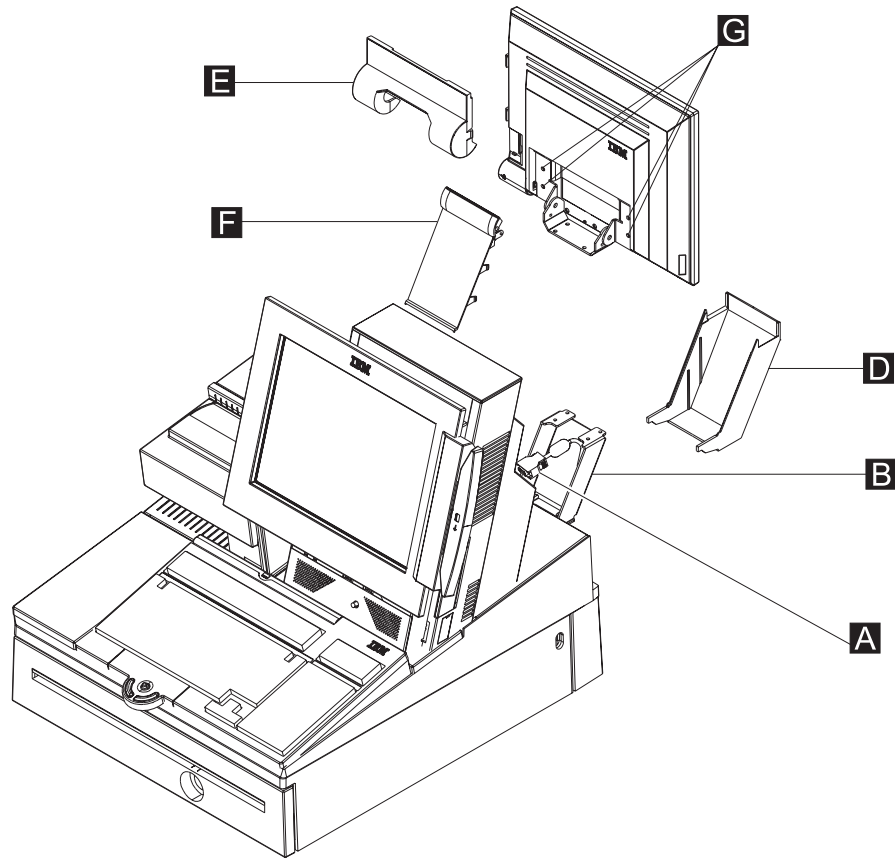
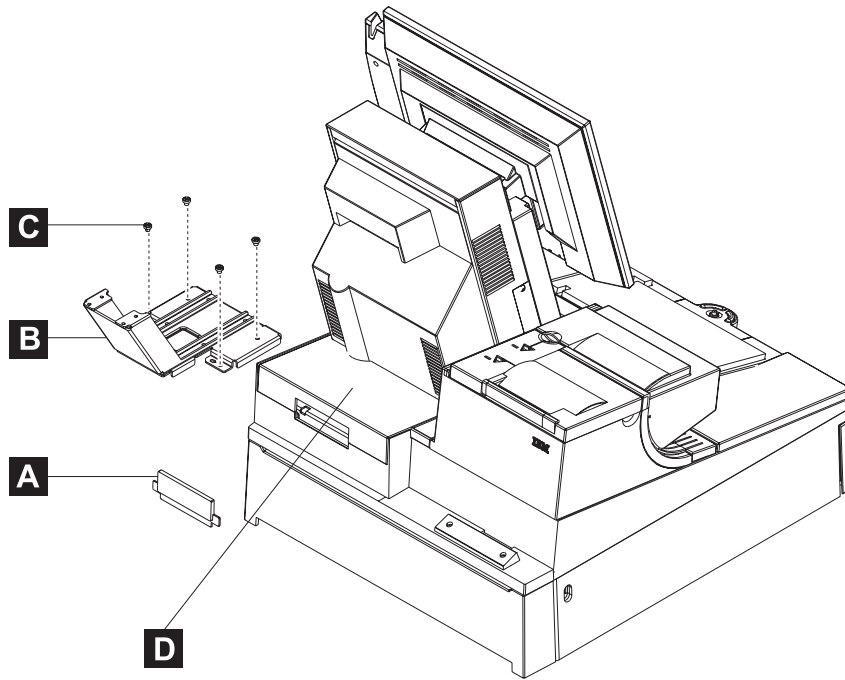

Figure 77. Removing the 4820 SurePoint Solution display cable and covers
Figure 78. Removing the 4820 SurePoint Solution from a keyboard integration tray
- a. Remove the 4820 filler panels in the following order (**E** , **F** , and **D**), as show in Figure 77, and **D** in Figure 78 on page 102.
- c. Remove the 4820 display by removing the two screws **C** from the display mounting bracket **B**, as shown in Figure 77 on page 101. Carefully place the 4820 display on a smooth, clean surface.